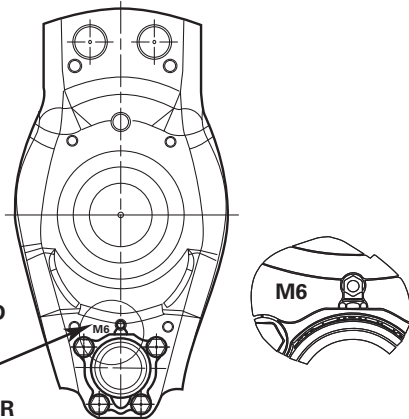

Figure 6.18
- For identification, 5-inch and M Tec6 (6-inch) axle models which are produced after “March-2018” will have “M6” embossed on the spider inboard surface near the cam retainer grease zerk. The new two-piece dust shield can only be installed on these axles. Figure 6.18.